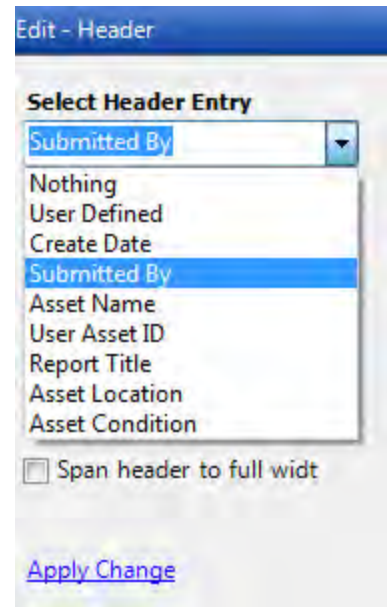

Figure 3-74: Detailed Report Window - Select Header Entry
2. Select the Header Entry from the drop-down list under Select Header Entry. See Figure 3-74.